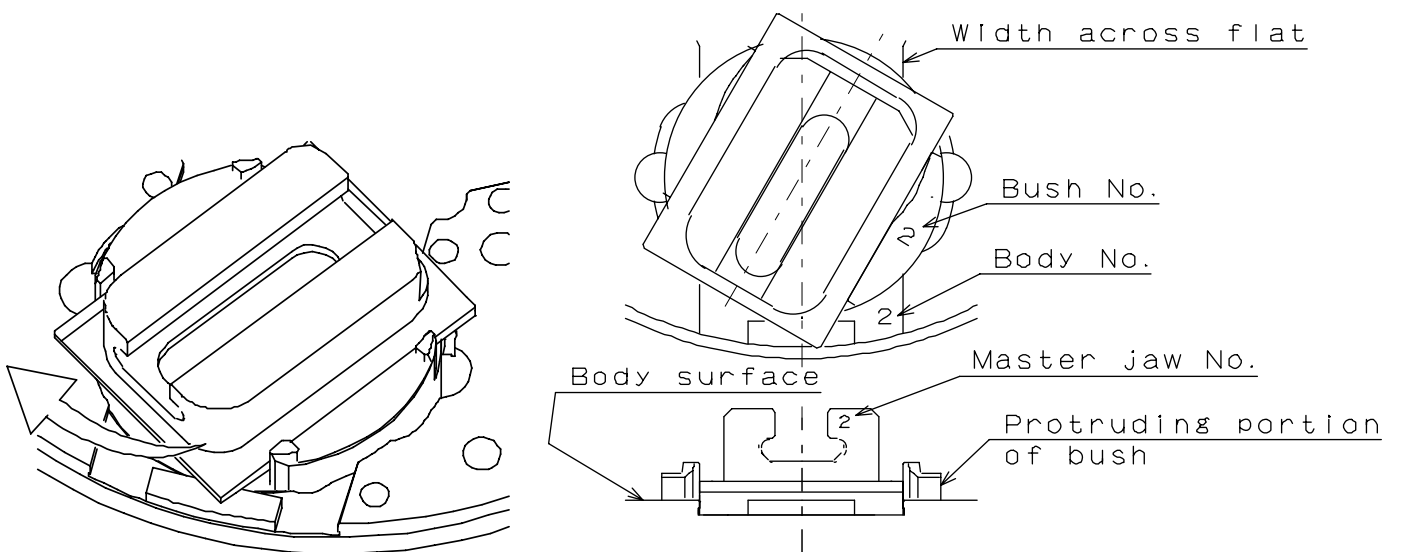

Fig.24
5. Draw out the master jaw from the width across flat of the body slightly and hook it on the protruding portion of the bush. Push the master jaw into the width across flat of the body again at the place where the master jaw is rotated 180°. Perform this procedure for all master jaws. (See Fig. 24) If it is hard to draw out the master jaw, attach the other jaw temporarily and hold it since the master jaw is drawn out easily. Since grease is fully filled inside of the chuck, a strong force may be required for drawing out the master jaw.
- When drawing out the master jaw accidentally, insert it immediately. At this time, match the master jaw No., body No. and bush No. If both Nos. are different, gripping accuracy may be reduced. (Fig.24)